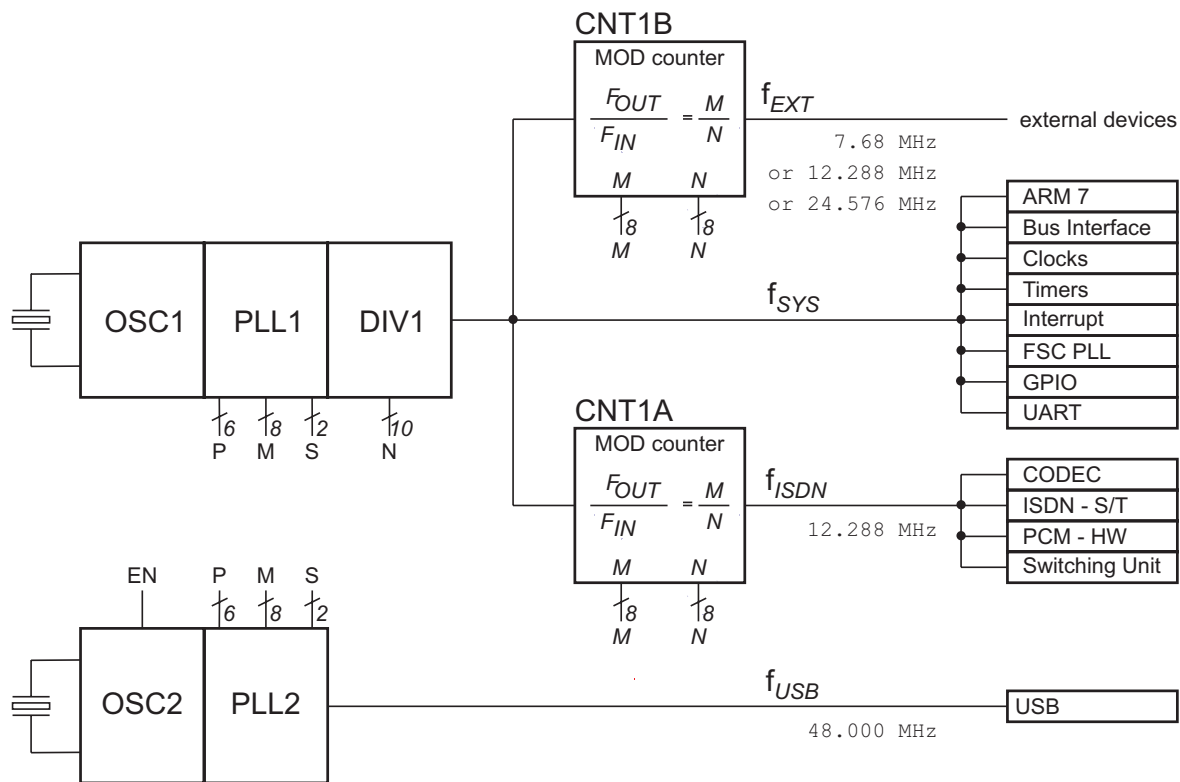

Figure 8: Clock distribution in the HFC-S active
Figure 8 illustrates, how the functional blocks of the HFC-S active clock distribution work together. As the crystal frequencies are not prescribed, frequency values are only pointed out where they are fixed by specification requirements.
**Programmable system clock  $f_{sys}$ :** The crystal which is connected to the OSC 1 block is used as a reference for the programmable frequency of the ARM7TM CPU and some other subsystems like shown in figure 8. By using the PLL 1 and the divider DIV 1, the input frequency can be
**12.288 MHz clock for ISDN related peripheral modules:** Some peripheral modules of the HFC-S active like shown in figure 8 have to operate at a fixed frequency  $f_{ISDN} = 12.288$  MHz due to fixed data rate requirements. In order to allow interfacing to the ARM7TM CPU, the clock skew between  $f_{ISDN}$  and the ARM7TM clock  $f_{sys}$  has to be nearly zero. As the clock phase of the PLL output relative to the PLL input is uncontrollable, the original crystal frequency cannot be used to derive a clock signal for these modules.